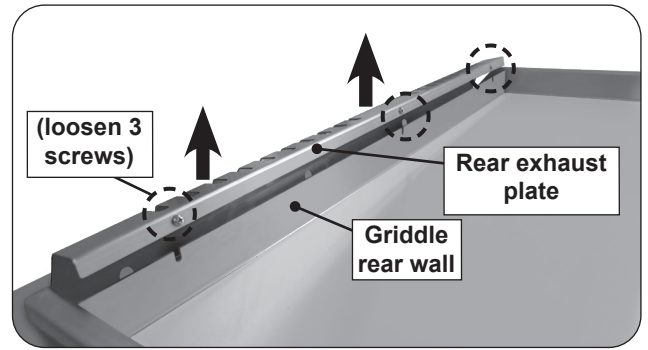

Fig. 39-1 Rear exhaust plate removal
1. Remove the rear exhaust plate by loosening the three bolts and nuts (do not disassemble), then lift the panel up from the griddle top (see Fig. 39-1).